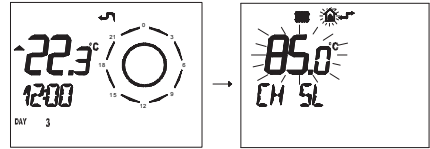

Fig. 7.39
- Press button  $\text{IP}$  for more than 3 seconds to enter in *INFO* mode (Fig. 7.39).